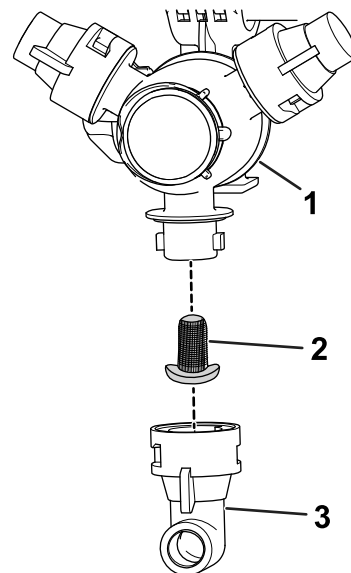

Figure 148
2. Remove the nozzle from the spray turret (Figure 148).
3. Remove the old nozzle filter (Figure 148).
4. Install the new nozzle filter (Figure 148).
5. Install the nozzle onto the spray turret (Figure 148).